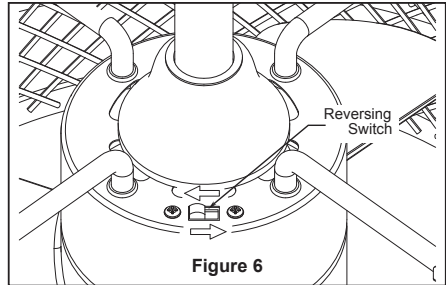

Figure 6
- ☐ **6.** Reinstall the hanger ball on the downrod as follows. Route the black, white and blue wires through the hanger ball. Position the pin through the two holes in the downrod and align the hanger ball so the pin is captured in the groove in the top of the hanger ball. Pull the hanger ball up tight against the pin. Securely tighten the set screw in the hanger ball. A loose set screw could create fan wobble. (Figure 6)
- ☐ 6. If airflow is desired in the opposite direction, turn the fan off and wait for the blades to stop turning. Then slide the reverse switch on top of motor assembly to the opposite position and turn fan on again. (Figure 6)